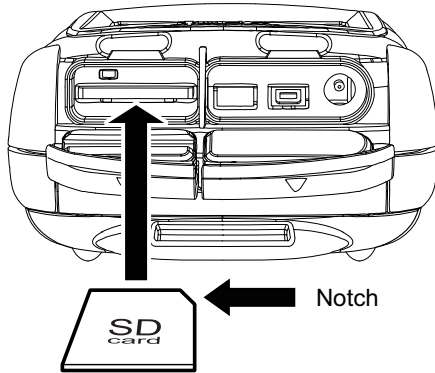

Figure 2-10. Insert SD Card
2. Gently insert an SD card into the slot as shown in Figure 2-10.